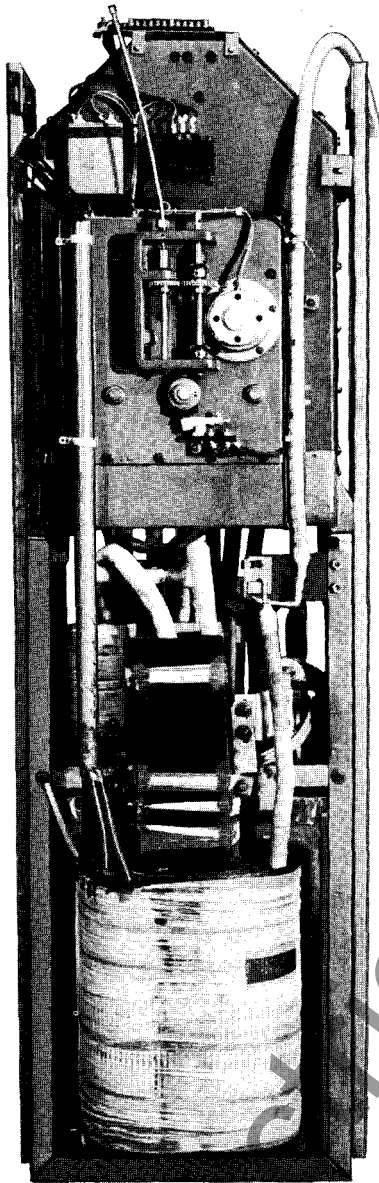

Fig. 16 - URF Internal Assembly
7. The complete core and coil assembly including the tap changer can now be lifted out of the tank. After removal from the tank, the coils should be kept dry and clean. See Figure 16.